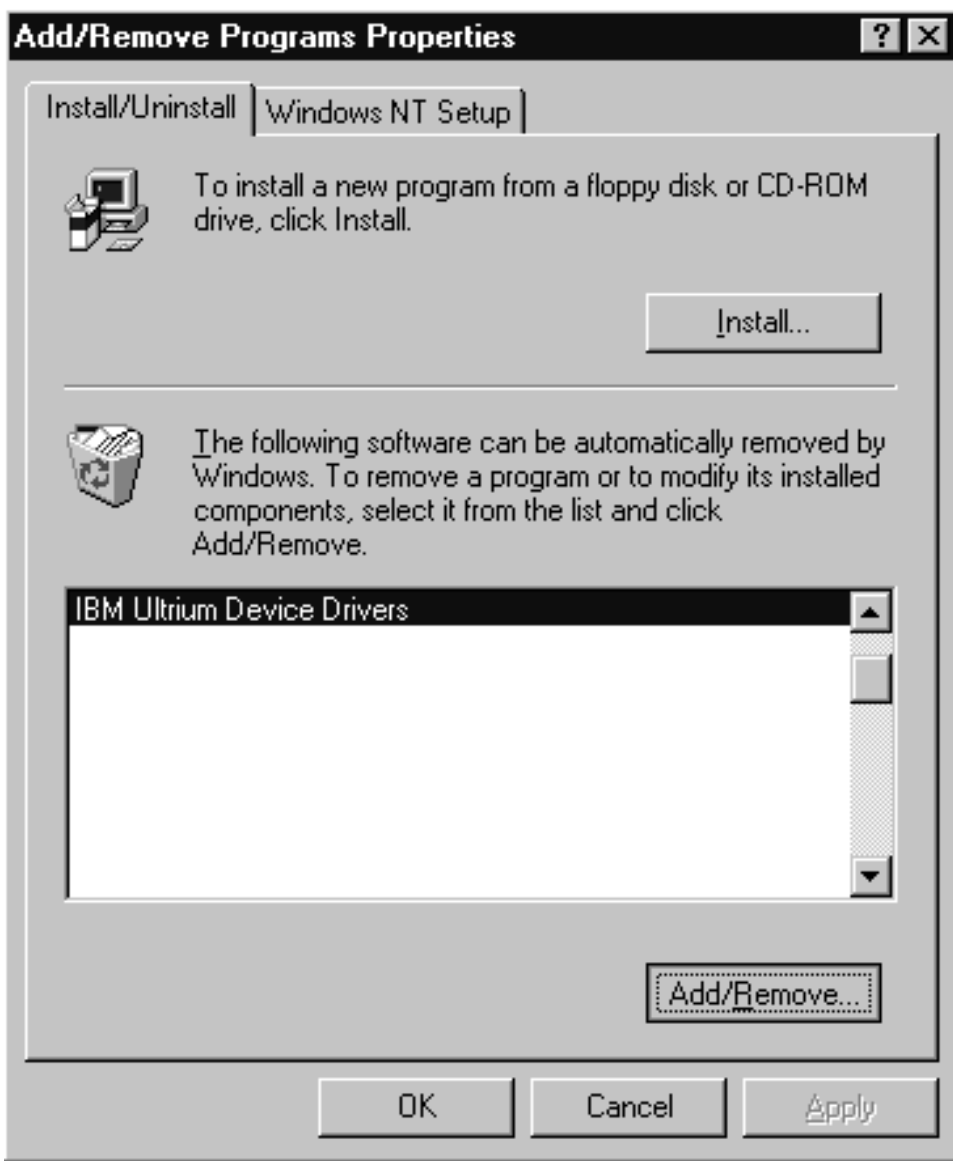

Figure 21. Add/Remove Properties
7. Highlight **IBM Ultrium Device Drivers**, then click **Add/Remove....** See Figure 21.